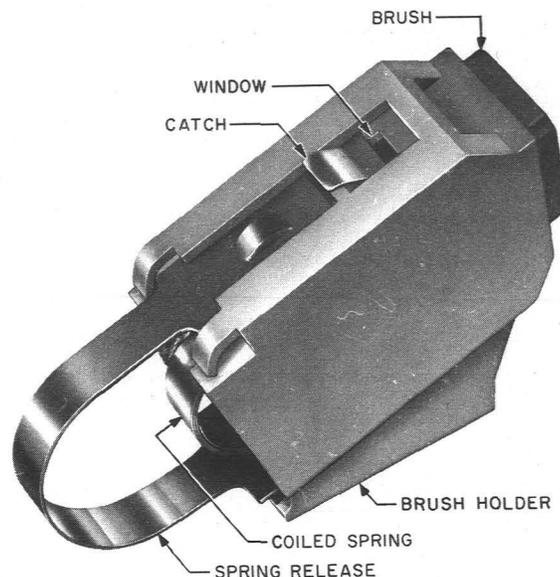

Fig. 1 — Constant-Pressure Brush Holder
**3.11 Brush Holder of Type Shown in Fig. 1 or 2**